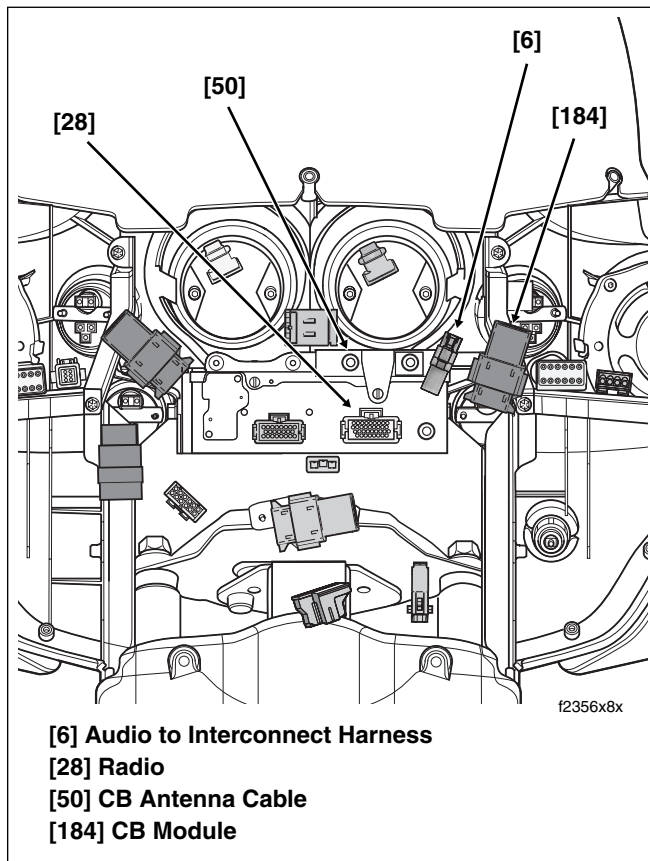

Figure 8-187. Remove Outer Fairing (FLHTCU)
6. See Figure 8-187. Disconnect the following connectors:
7. See Figure 8-187. Standing at front of motorcycle, connect the following connectors: